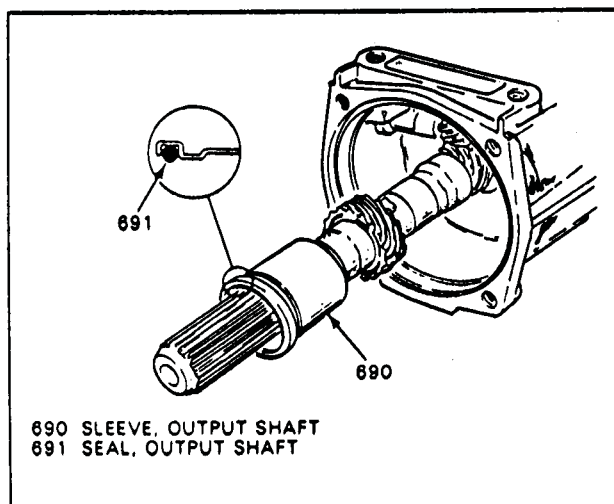

Figure 173
1. Install the output shaft sleeve "O" ring into the output shaft sleeve, as shown in Figure 173.